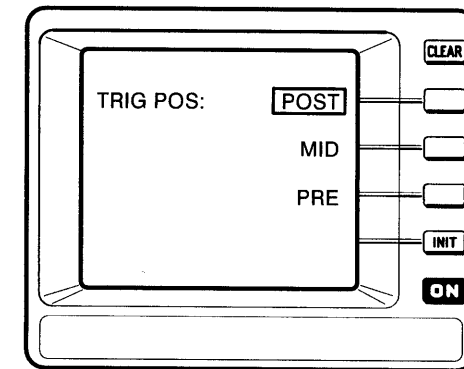

Figure 3-38: Trigger Position Menu
- Step 2:** Press the **TRIG POS** button on the top panel. A menu appears on the display, as shown in Figure 3-38. The trigger position presently in effect appears boxed in the menu.